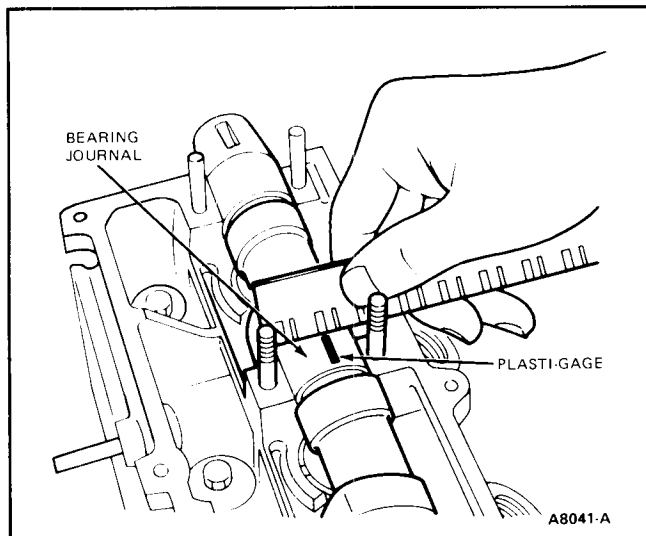

FIG. 78 Camshaft Oil Clearance Measurement
4. Remove bearing cap and measure the oil clearance (Fig. 78). Clearance should not exceed 0.1mm (.0039 inch).